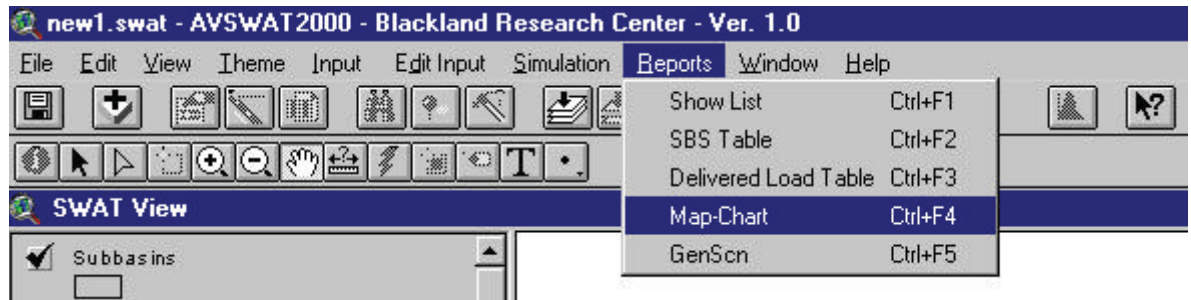

Figure 13.50
1. Select **Map-Chart** from the **Reports** menu on the SWAT View (or press **Ctrl+F4**) (Figure 13.50).